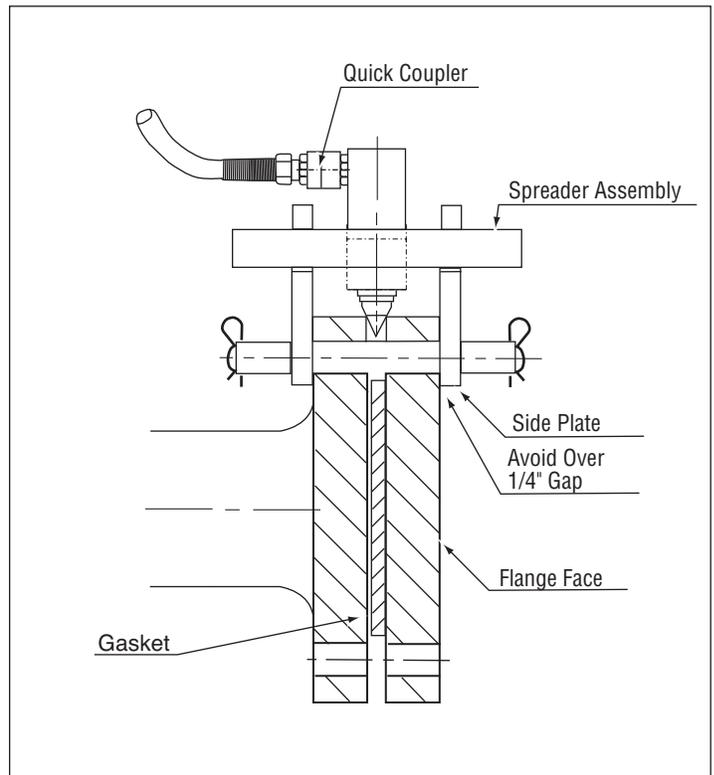

Figure 2
2. Rotate the wedge clockwise allowing the tapered sides to be forced between the flange faces. If the wedge cannot be rotated sufficiently in a clockwise direction for proper alignment, then rotate it counter-clockwise just enough to align it with the flange. See Figure 2.